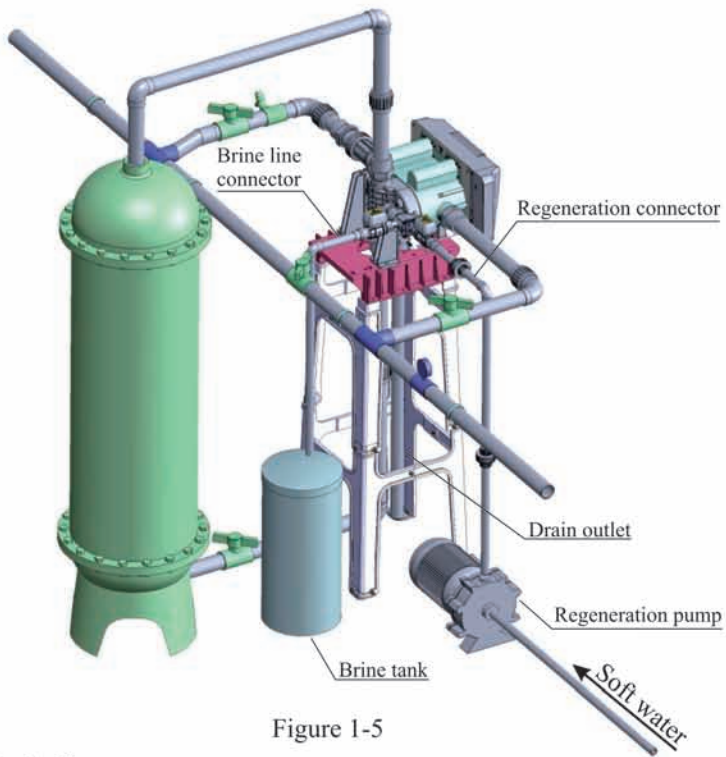

Figure 1-5
④ Connect brine tube and regeneration pump tube
a. As Figure1-5 shows, use UPVC (DN20) to connect brine valve with brine line connector of control valve.
b. As Figure1-5 shows, use UPVC (DN20) to connect the outlet of regeneration pump with the regeneration connector ball valve, then connect the inlet of regeneration pump with softened water.